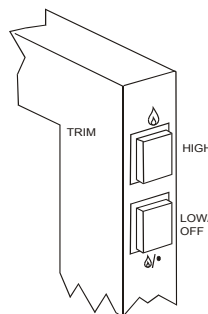
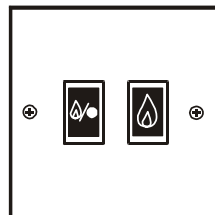

Figure 12 - Trim Switch
Figure 13 - Wall Switch
1. Ensure the main burner is off by pressing the button on the trim marked  ('small flame/dot') until clicking is heard on the valve (see **Figure 12/Figure 13**).
6. Press and hold the  ('large flame') button (in **Figure 12/Figure 13**) until clicking is heard (fully open).